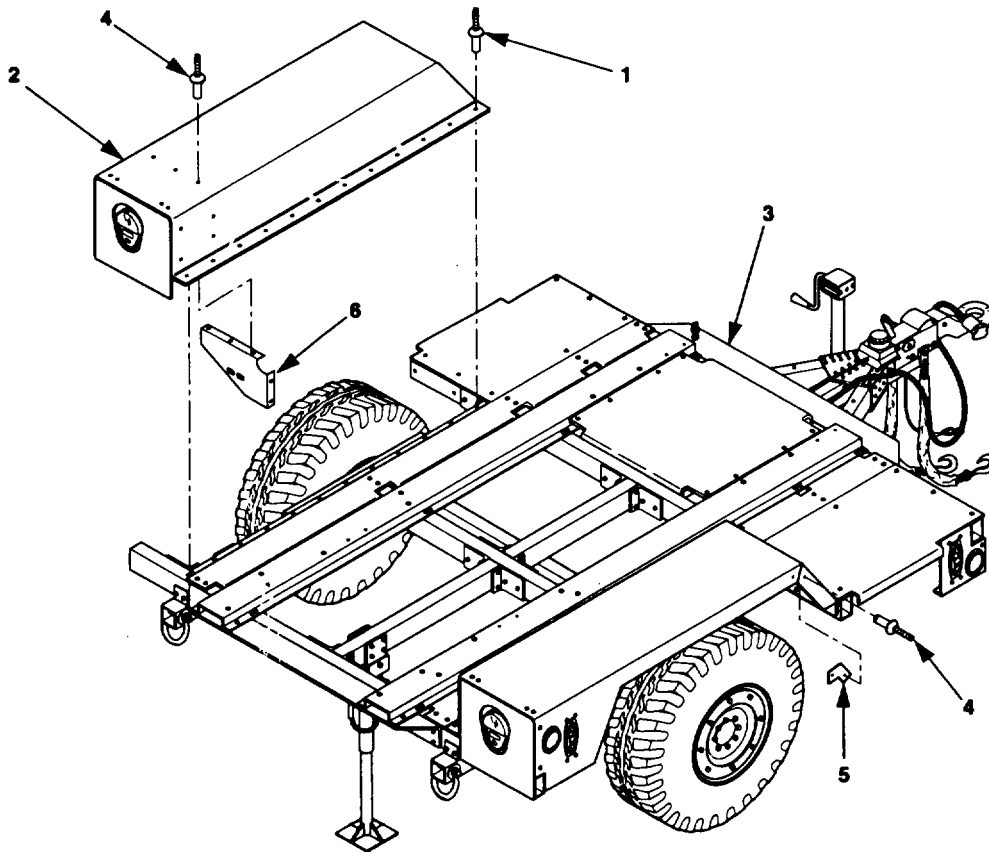

Figure 5-21. PU-798A and PU-799A Fender Replacement.
- (1) Data plate (paragraph 4-22).
- (2) Fire extinguisher and bracket (paragraph 4-20).
- (3) Side marker light and reflector (TM 9-2330-392-14&P).
- b. Remove rivets (1, figure 5-21) and fender (2) from trailer chassis (3).
a. Place fender (2, figure 5-21) on trailer chassis (3) and secure with rivets (5).